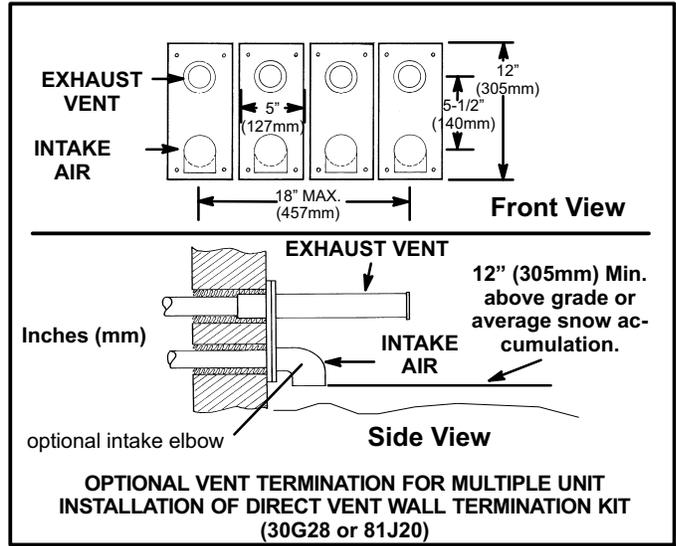

FIGURE 37
8. A multiple furnace installation may use a group of up to four terminations assembled together horizontally, as shown in figure 37.